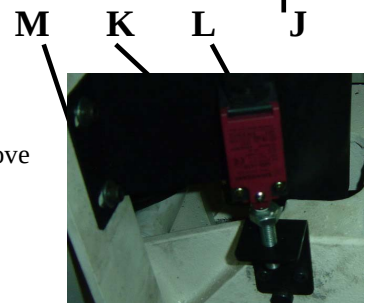

Fig. 3
7. When discontinued cutting or reset cutting is necessary during operation, close the cylinder feeding valve, then push the stop button (F)
8. Press emergency button (E) to shut-off the motor when in emergent situation Before next operation release (E) to get power.
9. AS the operator locate the working piece in the vise, turn the laser light on (F), the laser will mark on the work piece for cutting reference.
10. Turn (H) to controlling downwards of saw arm. And control the downward speed by adjusting hydraulic volume valve.
11. An automatic shut-off limit switch is provided to stop the motor when the cut is completed. The limit switch (K) is controlled by button (L) (figure 3), which contacts the rear cylinder (M) for shutting off the motor and coolant system.